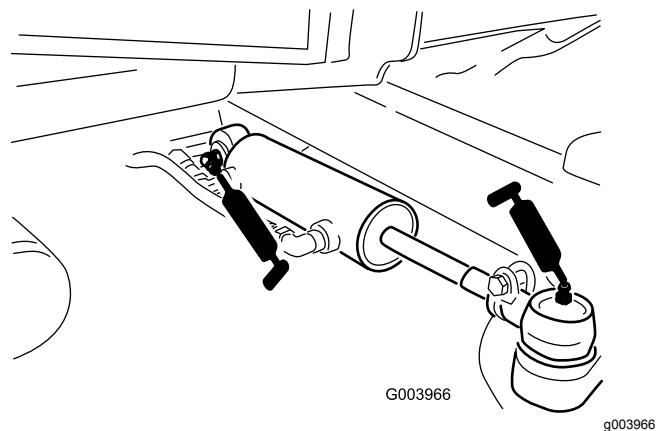

Figure 67
- Steering cylinder ball joints (2) (Figure 67)